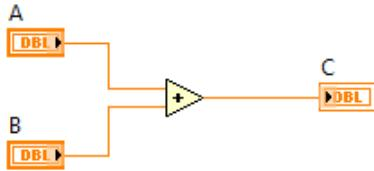

FIGURE 1.10 Our simple program, all “wired up.”.
**Tips & Tricks** It takes some getting used to the spool tool. When drawing a wire that has to turn corners (as in Fig. 1.10 below), you can click to set the location of the corner. You will notice that the tool is always trying to draw a vertical line segment, or a horizontal one. You can force it to switch from one to the other
So, clear the broken wire, and wire the diagram to match Fig. 1.10. From the front panel you can type values into A and B, and hit the (un-broken) white arrow in the upper left to run the program and have the result of the addition assigned to C.
As I promised, there is no explicit assignment statement. The wires in Fig. 1.10 are LabVIEW’s equivalent of assignment statements. But don’t think of them like that. Think of them as wires. Data *flows* along the wires, from one object to another. LabVIEW is culturally insensitive. It is designed so that the data flow is, generally speaking, from left to right. My apologies if you learned to read in a non-Western culture and expect things to flow from right to left or top to bottom. National Instruments is headquartered in Texas, and you just don’t mess with Texas. Please respect the left-to-right thing, and make all your programs clean, neat, and well organized. You will be really grateful for this when you are in the pit, you need to make a software change in under three minutes, and your whole team is screaming at you to hurry up. Programs that are easy to read are easy to debug. Programs that are a snarly mess are, well, a snarly mess.